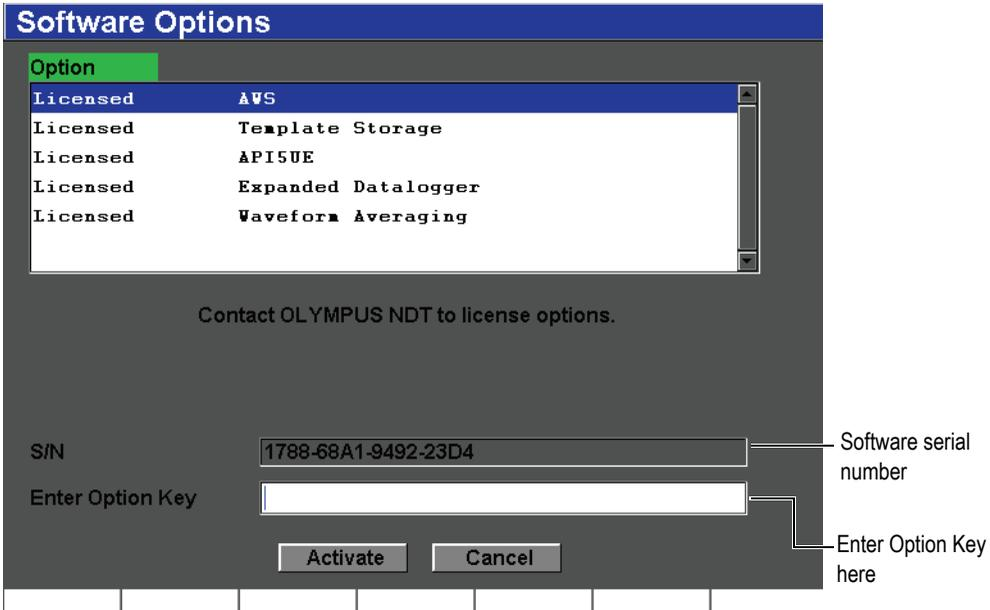

Figure 12-1 The Option key entry dialog box
1. Choose **Inst Setup > Software Options** to open the **Software Options** setup page shown in Figure 12-1 on page 218.
6. Using the virtual keyboard, enter the activation code in the **Enter Option Key** field (see Figure 12-1 on page 218).